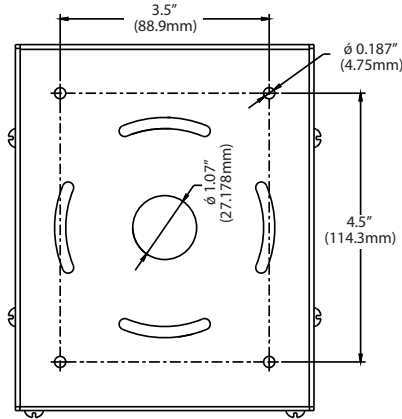

Fig. 3
1. Loosen **Screws (2)** and remove **Side Panel** from **Pendant Box**.
2. Mount **Pendant Box** to ceiling by drilling out **Drill Out Locations** as shown on **Fig. 3**. Use appropriate mounting hardware suitable for the mounting surface.